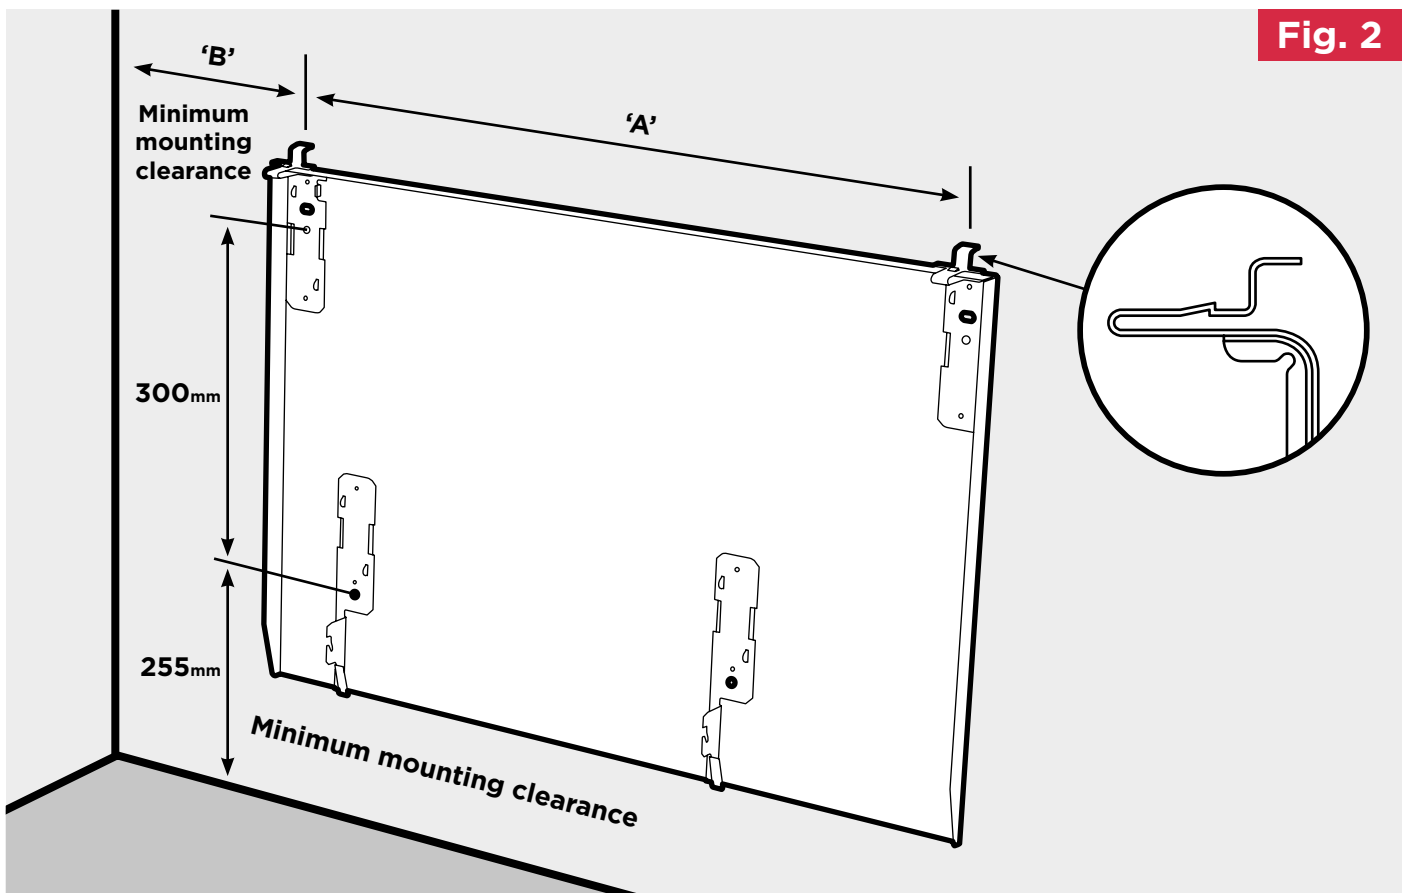
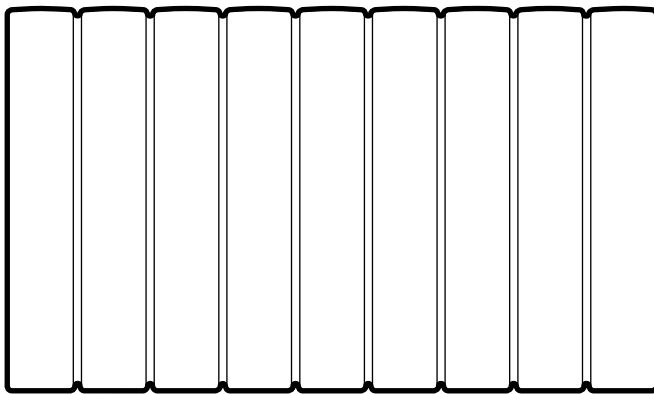

Fig. 2
Fig. 3
Please read the instructions closely before first using the product, there is also a quick-start guide on page 10 if you need a reminder of how to use the basic functions in the future. The heater is designed for wall mounting using the wall bracket supplied. It should only be operated when in the upright position as shown - see **Fig.3** and **Fig.4**. All models are splash proof to IP24. Before connecting the heater check that the supply voltage is the same as that stated on the heater.
IMPORTANT - The wall bracket supplied with the heater must be used and the heater must be installed in the correct orientation. The fixings should be used to secure the bracket to the particular wall on which the heater will be installed. The heater should be positioned observing the minimum clearances stated around the heater - see **Fig. 2**, **Fig. 3** and **Fig. 4**.
1. Remove wall mounting bracket from the back of the heater by depressing the spring latch at the side of each bracket - see **Fig.2**.